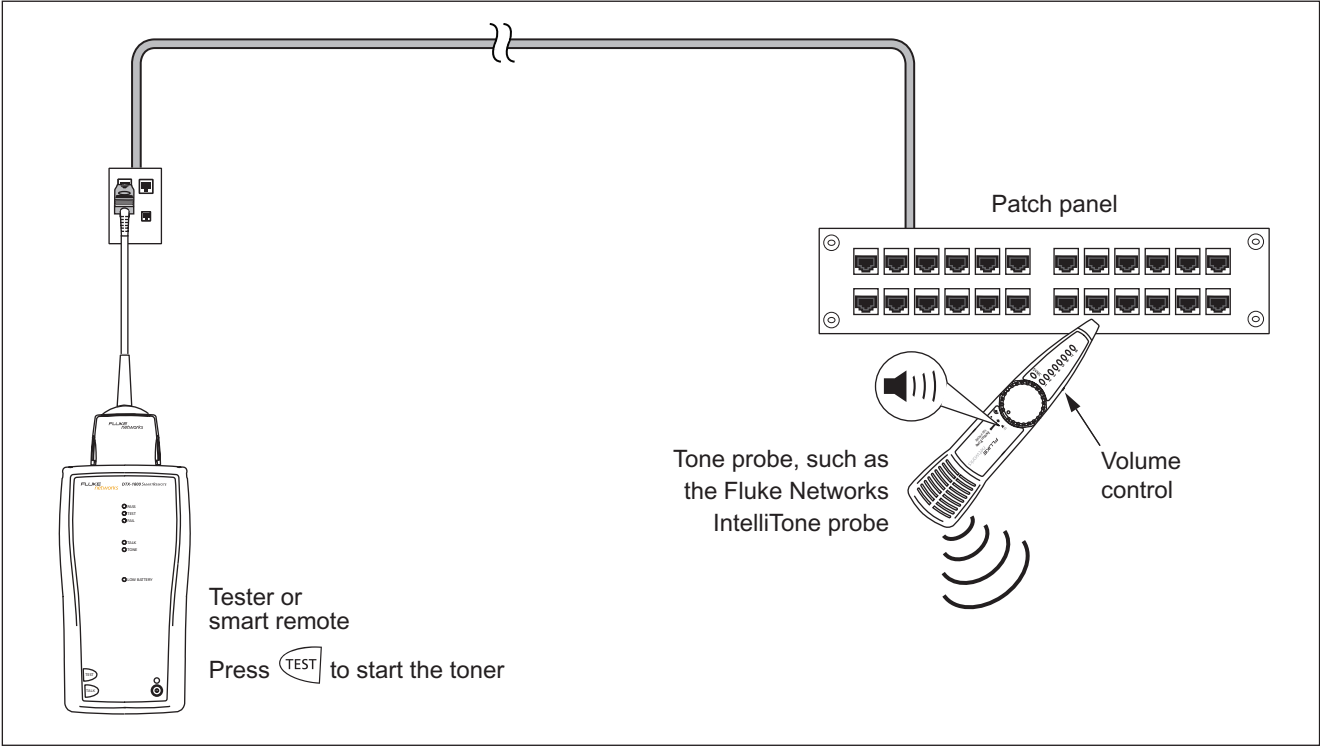

Figure 3-24. Using the Tone Generator
- 2 Connect the tester or smart remote to the cabling as shown in Figure 3-24.